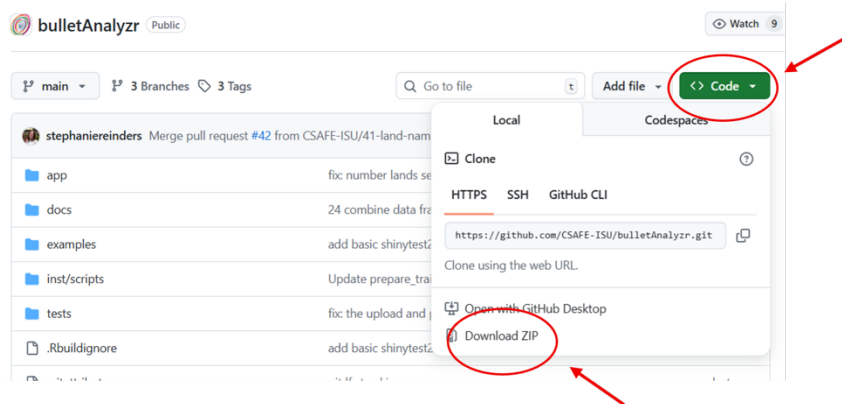

Figure 1. Click Code and then Download ZIP on the BulletAnalyzr GitHub page to download BulletAnalyzr.
- Click the green Code button and select Download Zip (Figure 1)